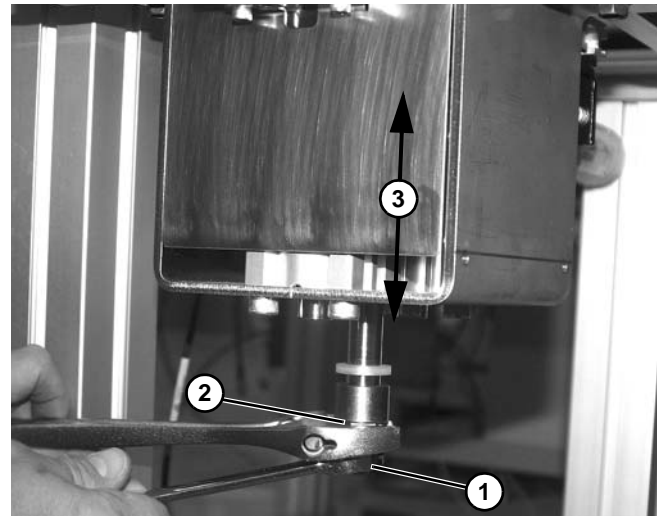

Figure 39
2. To adjust stroke, loosen jam nut (**Figure 39, item 1**) from large nut (**Figure 39, item 2**) on the bottom of cylinder shaft.
3. Turn large nut (**Figure 39, item 2**) clockwise or counterclockwise to raise or lower (**Figure 39, item 3**) pallet assembly as needed.